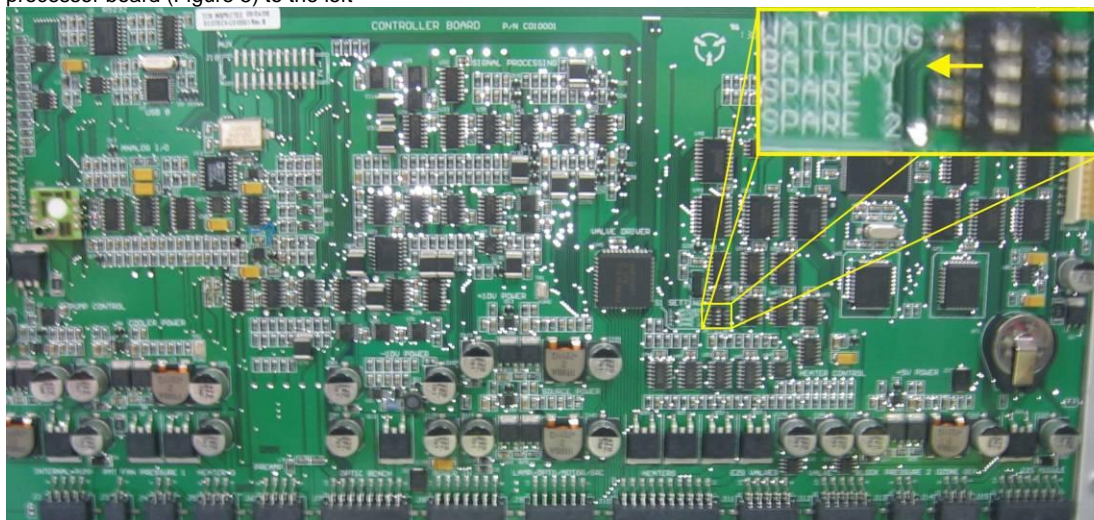

Figure 5 Switching battery off
- Check battery is turned on at main controller PCB (Figure 5)
*if storing over long period (6 months) turn the battery off by switching the following switch on the main processor board (Figure 5) to the left